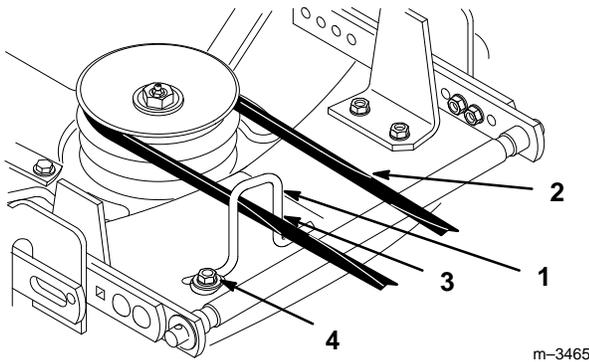

Figure 13
8. Loosen the belt guide bolt (Fig. 13).
9. Adjust the belt guide so that it just touches the belt on the inside arm of the guide (toward the center of the deck) (Fig. 13).